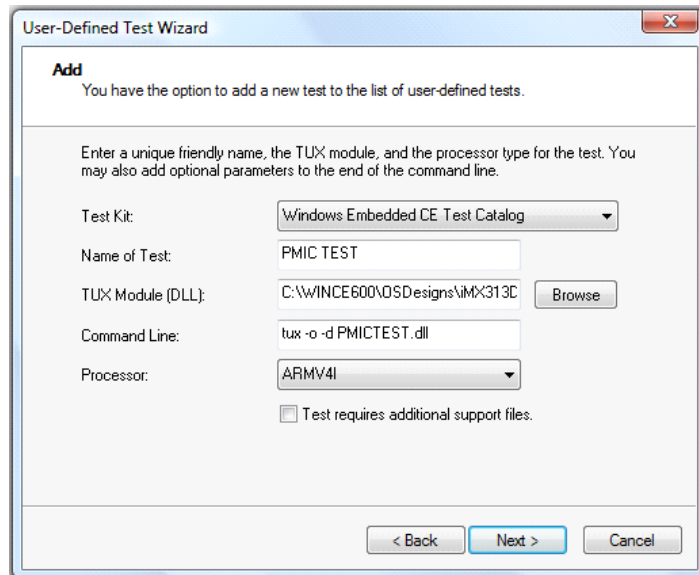

Figure 5. Adding of a New Test
5. In the Add window, enter the name of the test, browse for the location where the dll files are stored and select the ARM4I processor, as shown in Figure 5. The wizard sets the command and this command needs to be changed to `add -n` (kernel mode) option in the next step.
Figure 5 shows the adding of a new test in the User-Defined Test Wizard - Add window.